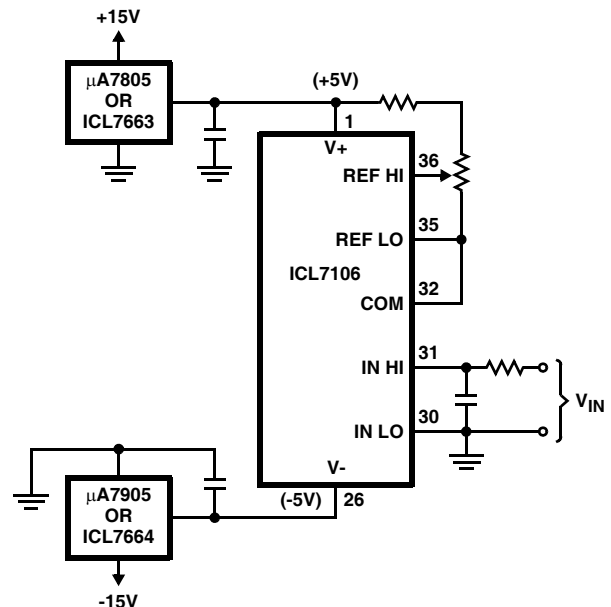
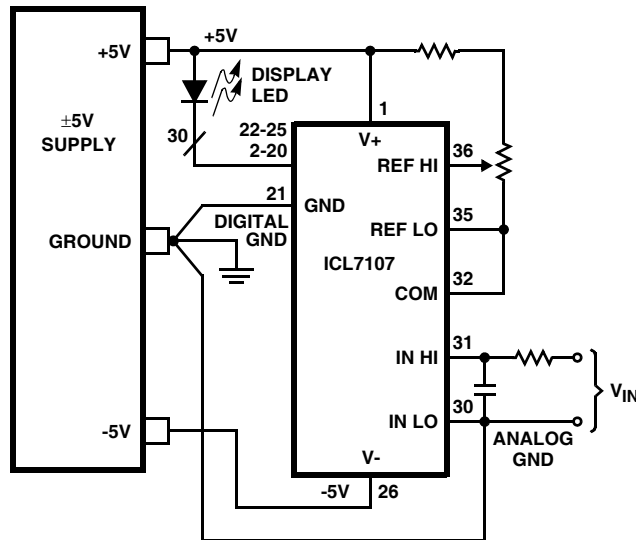
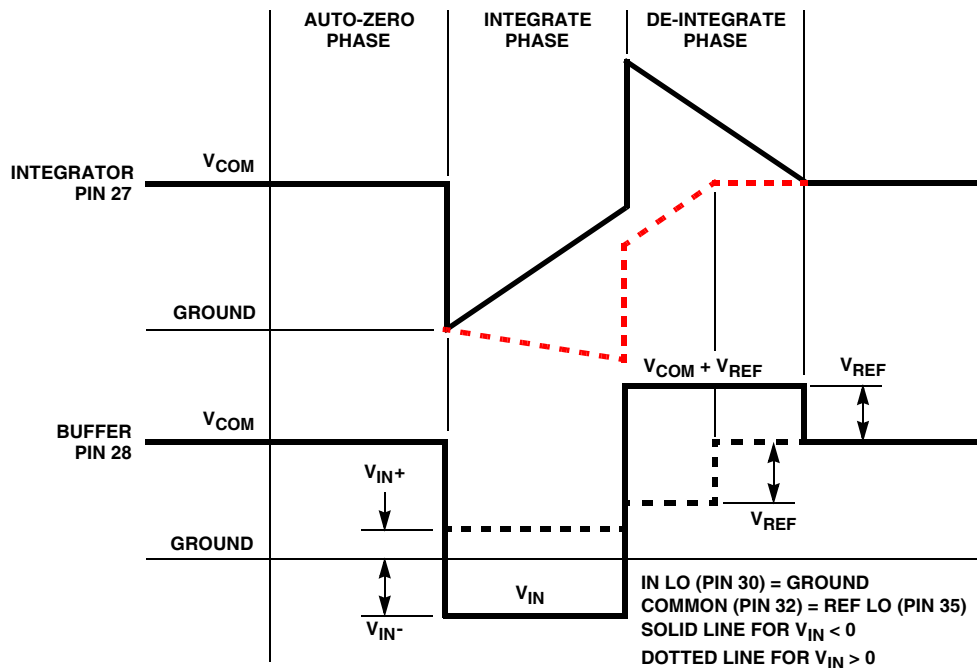

FIGURE 1. OPERATION FROM DUAL POLARITY SUPPLIES WITH INTERNAL VOLTAGE REFERENCE
FIGURE 4. GROUNDING DETAIL FOR ICL7107
FIGURE 7. INTEGRATOR AND BUFFER WAVEFORMS FOR ICL7106, ICL7126 CONNECTED AS IN FIGURE 1, OR ICL7107 CONNECTED AS IN FIGURE 4
ICL7660 voltage converter circuit can be used to generate -5V at 20mA from the +5V supply. See Figures 1 and 2.
**Action** - The connection to analog COMMON (pin 32) should be checked. If the internal voltage reference is used, analog COMMON should **not** be grounded, but rather should be connected to REF LO (pin 35), as shown in Figure 1.
**Action** - The connections to power supply ground and signal grounds must be carefully routed to avoid noise problems. Digital ground (pin 21) carries all the LED return current, and should only be connected to INput LO (pin 30) at the power supply terminals. Figure 4 shows how this grounding should be done to keep the LED current from generating a noisy input voltage.
Dual power supply operation is shown in Figure 1 for the ICL7106 and in Figure 4 for the ICL7107, with INput LO connected to ground in both cases. Figure 7 shows the INTEGRator and BUFFEr amplifier outputs at  $V_{COM}$  during the auto-zero part of the conversion cycle, just as in the case of Figures 5 and 6. When the integrate phase starts, the buffer and integrator are switched so that their inputs are referred to ground rather than  $V_{COM}$ . The BUFFEr OUTput goes to a voltage corresponding to  $V_{IN}$ , and the integrator begins ramping from ground in a direction opposite to the input voltage polarity. During the third